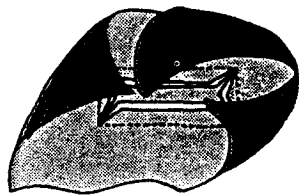

Fig. 3
3. Turn patch to wrong side through slash. Press as shown. (Fig. 3, 4)